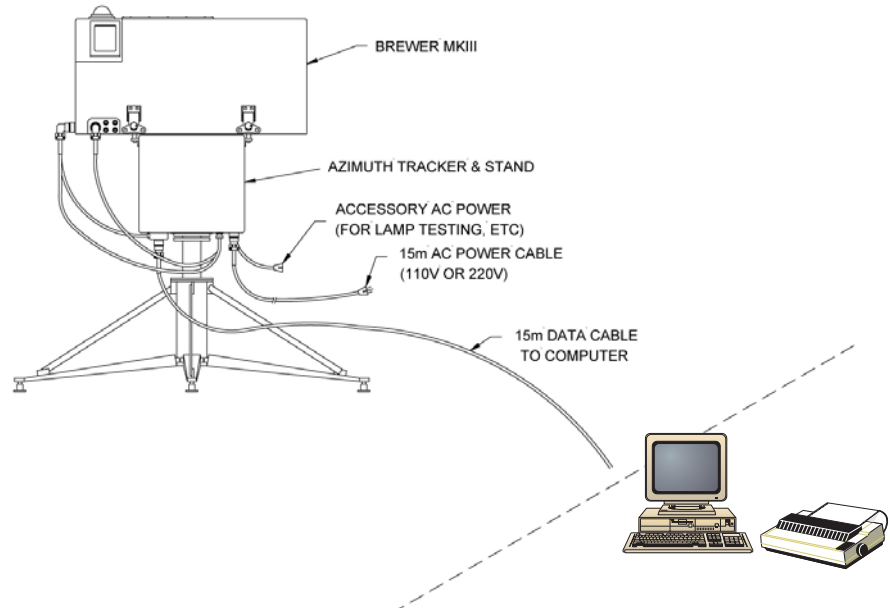

Figure 3.2 Brewer Equipment Setup
**REFER TO FIGURES 3.2 and 3.3 FOR THE FOLLOWING SETUP**